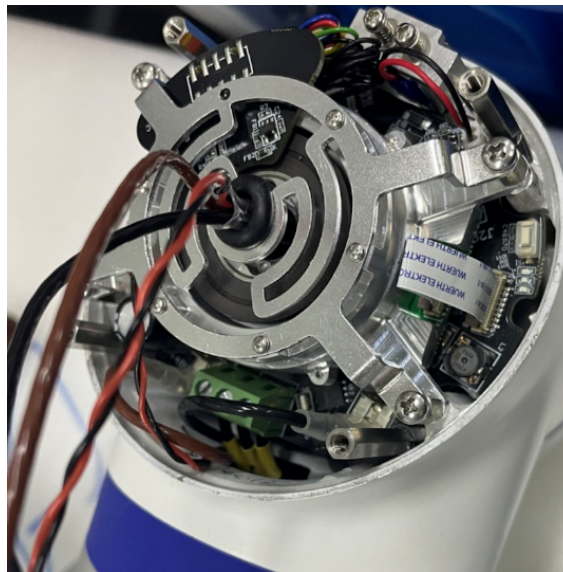

Figure 3-18 : Insert the wire guard ring
- Wire guard: put the rubber guarding ring around the wire bundle, and push it all the way down to around the heat shrinking tube. Then put the wire guard ring on the wire rack as shown in **Figure 3-18** :